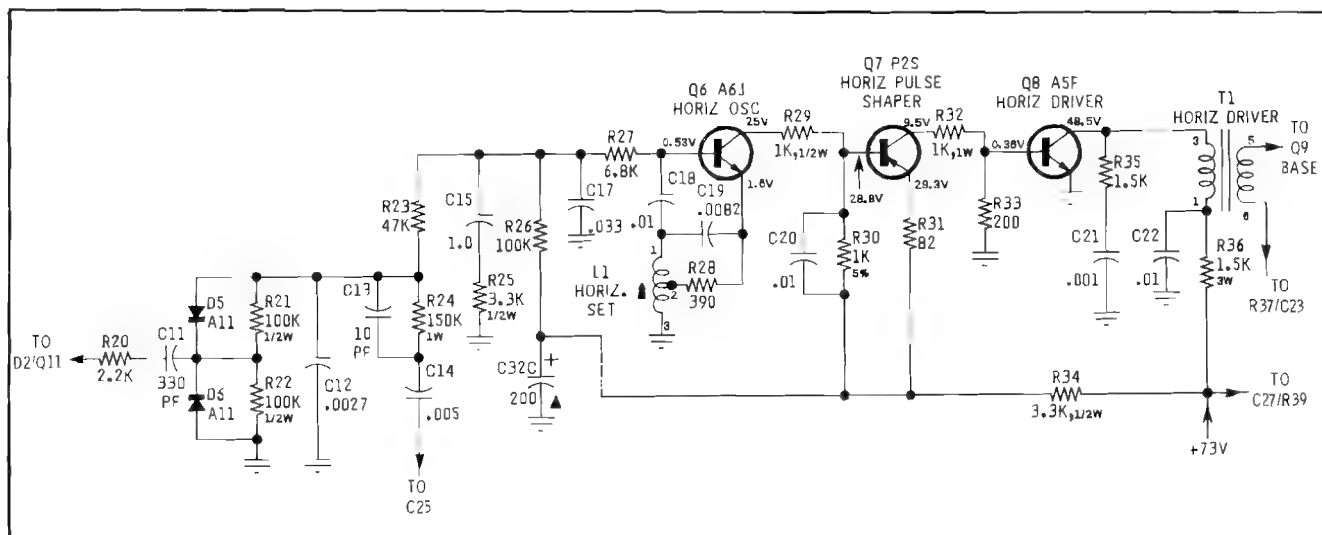

Figure 6-6 Motorola Monitor Horizontal Deflection Circuit
D. HORIZONTAL DEFLECTION CIRCUITS (See Figure 6-6)